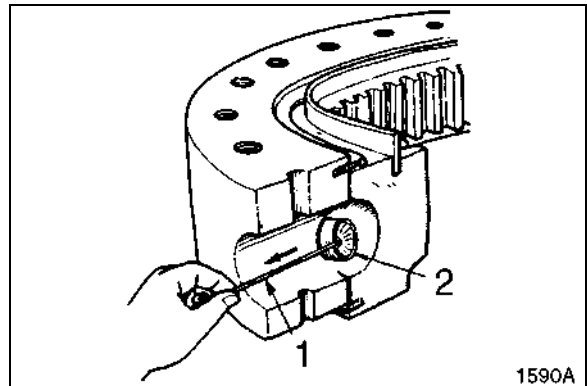

Figure 7
- Turn inner ring and use wire (1, Figure 7) to remove retainers (2).